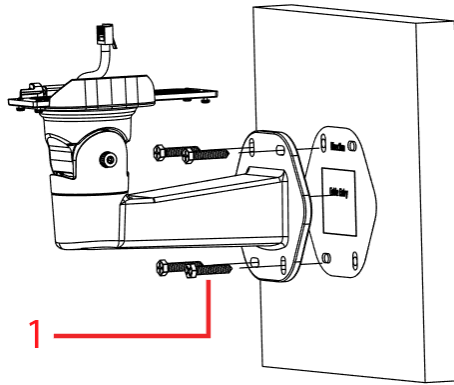

Figure 2
- Securely attach the mounting arm to the surface with the four TP6x32mm screws (1) (Figure 2).